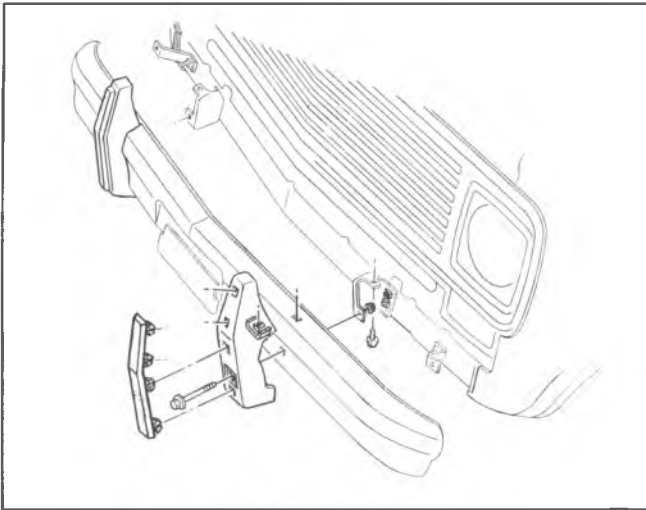

Fig. 1--G-Model Front Bumper
FRONT BUMPER (Fig. 1)
4. If equipped with bumper guards (Fig. 1) they may be removed from the face bar at this time.